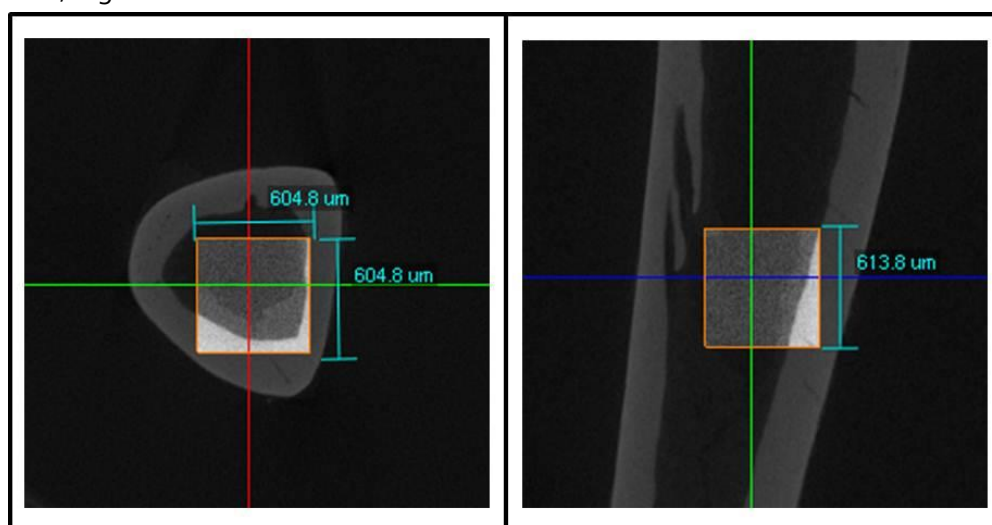

Figure 3: Using the 3D crop tool and the measurement tool, a box is made to represent the area for desired high resolution, interior tomography
- 3.4 Using the 3D cropping tool  make a box equivalent to the FOV of the desired high resolution scan. The measurement tool  is useful to size the cropping box to the size of the intended interior tomography FOV. Figure 3 has a box of volume $(0.6\text{mm})^3$ to represent a $0.6\mu\text{m}$ voxel size, high resolution scan.